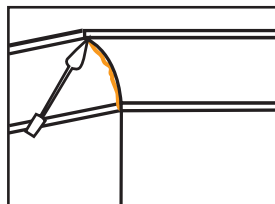

FIGURE 16
- Straight stop along cornice edge at wall and ceiling. Finish mitres using a small cornice tool. [Figure 16]